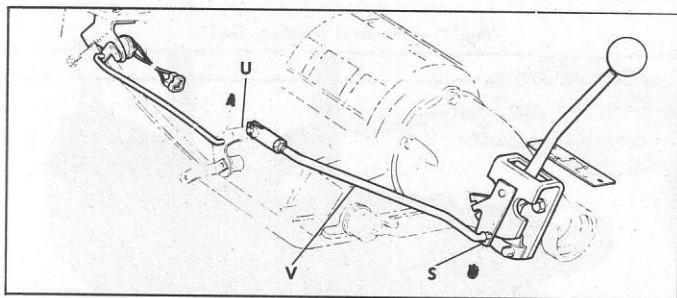

Fig. 5—Shift Linkage Adjustment
2. Disconnect control rod (V) (fig. 5) at control shaft lever (S) by removing clip retainer from control rod. Loosen clevis nut at bell crank end of control rod.
3. Set control rod bell crank (U) in park position.
4. Set control shaft lever (S) in park position.